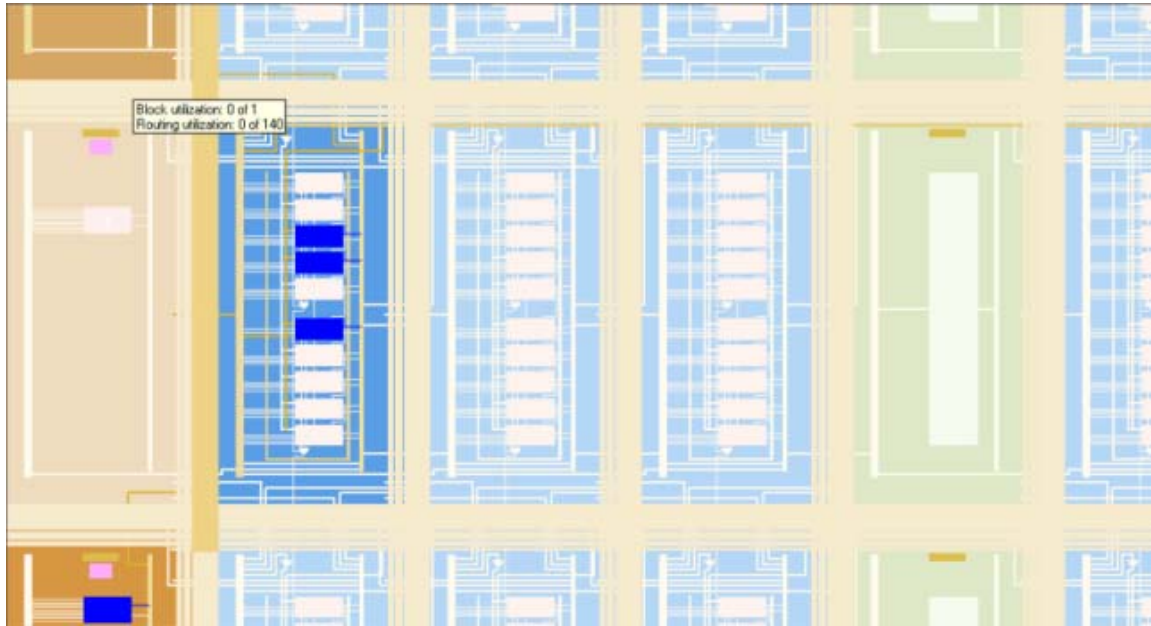

Figure 5 - Screen Shot Showing Internal Logic Elements within LAB in Chip Editor
5. Use the zoom tool to zoom in on the dark blue shaded LAB. If you zoom in far enough, you will be able to see the individual logic cells within the LAB, as shown below in Figure 5. You can see that all three logic cells have been packed into a single LAB. Holding the mouse over a logic cell will cause the editor to display the cell's X, Y location and logic cell number. Note the locations of the three cells for reference below.